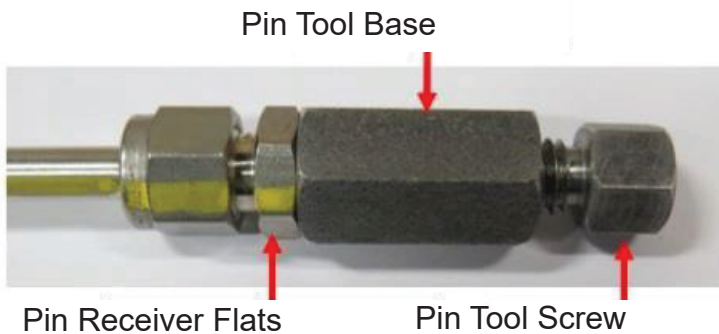

Figure 37: Make sure the pin tool base contacts the pin receiver body.
3. Hand tighten the pin cap tool base onto the pin receiver (Figure 37).